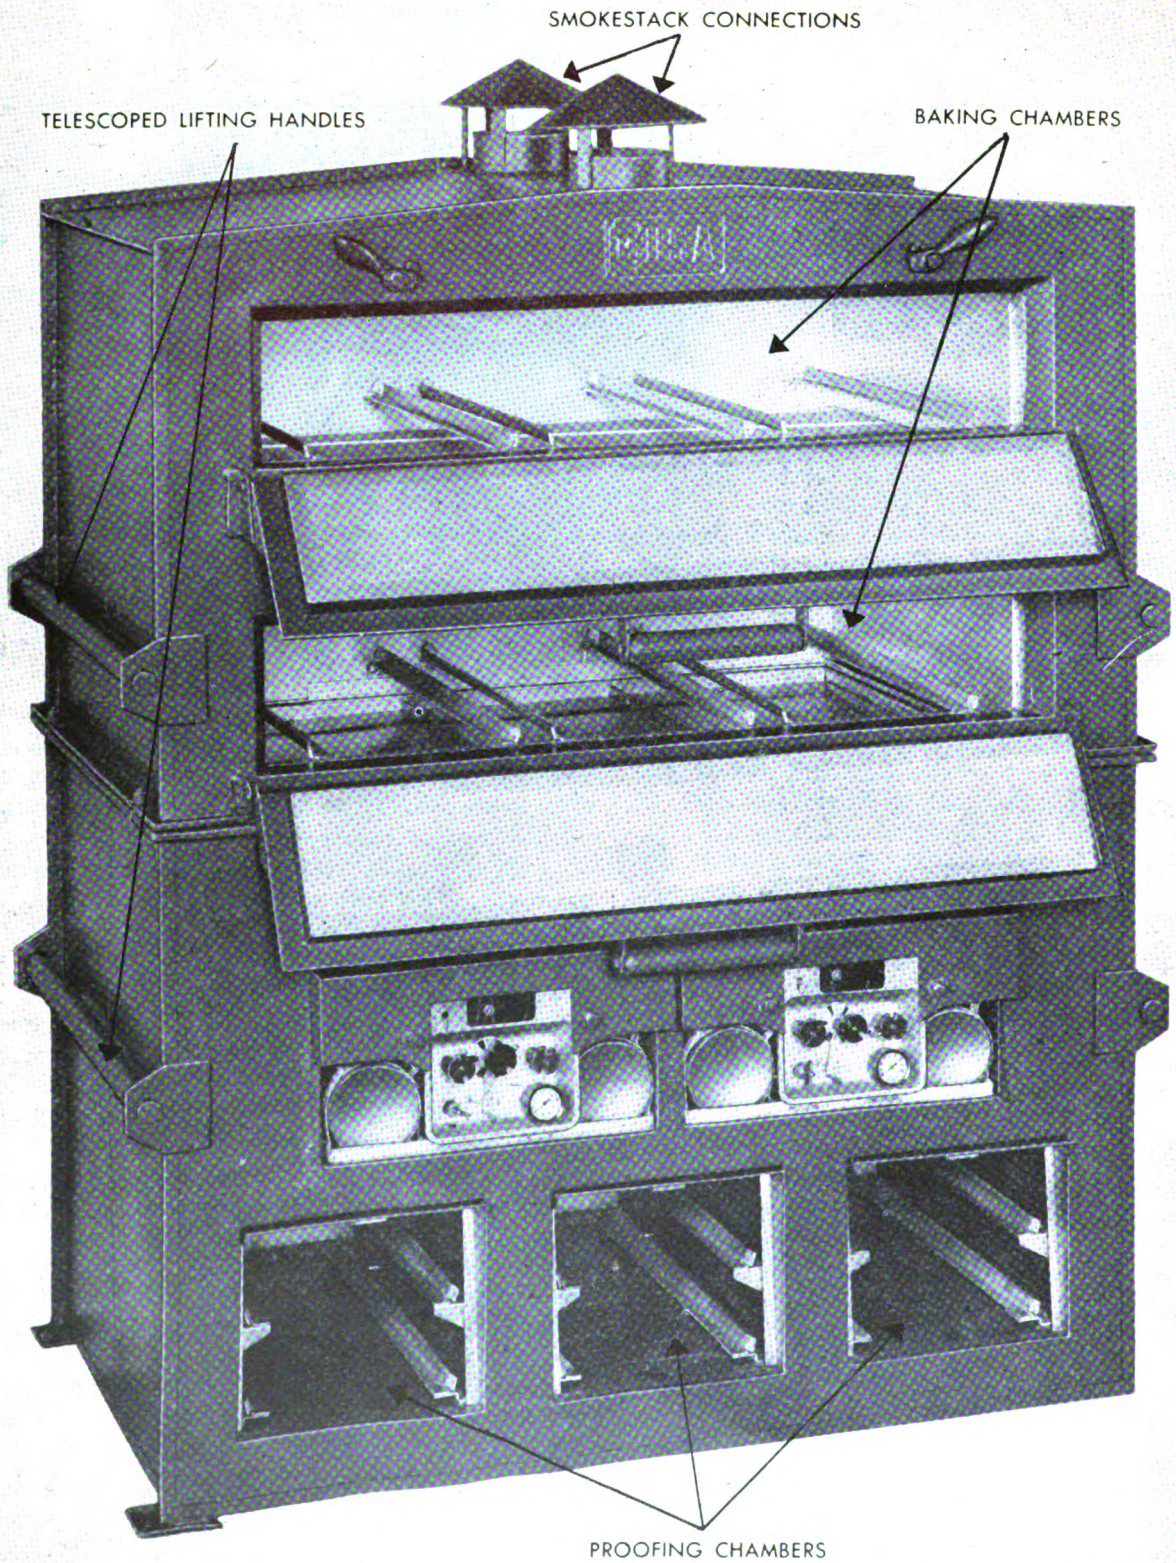

Figure 64. Oven, bake, field, M1942 (65-A-5500), equipped with units, fire, M1937 (65-J-2605).
a. The field bake oven M1942 (stock No. 65-A-5500), (fig. 64), is a large two-deck oven which will produce 48 pounds of round field bread or 60 pounds of garrison field bread in a baking period of 1 to 1½ hours. Baking time depends on the type of bread being baked, the type of burner used, and local climatic conditions. One section of a bakery company operating two ovens will produce bread for approximately 2,500 men each day. (For a list of component parts and accessories of the outfit, baking, field, M1942, see sec. IX, app. For a list of parts for mechanical maintenance, see sec. X, app.)
54. Firing with Unit, Fire, M1937 (see fig. 64)
(3) Place the cap over the rear stack connection and seal it firmly with furnace cement. (See figs. 64 and 70.) Any leak at this connection will interfere with combustion. (A few early model M1942 ovens are in use, which do not have the rear stack connection.)
(4) Join the three lengths of stack together and attach the assembly at the front connection. (See figs. 64 and 70.)
(5) Swing the float valve into operating position. The float valve on each burner is mounted on a pivot. During transportation of the oven the valve is swung into the housing and locked; for operation, the valve is swung out. To change the position of the valve, loosen the large nut on the